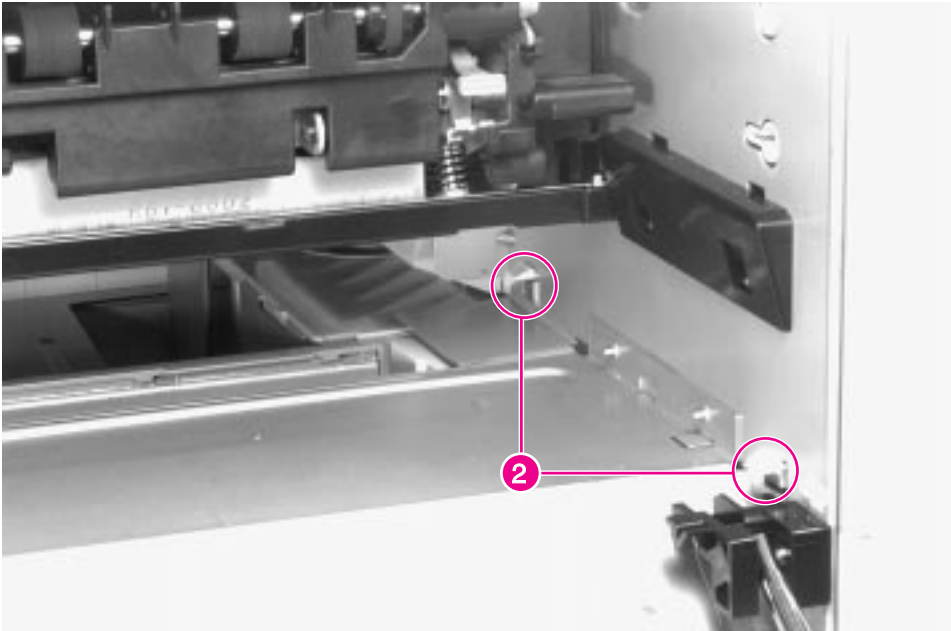

Figure 6-7 Front Cover (2 of 2)
- 3 Open the Diverter Access Door and release the two plastic retaining tabs inside the Duplexer cavity (figure 6-7, callout 2).